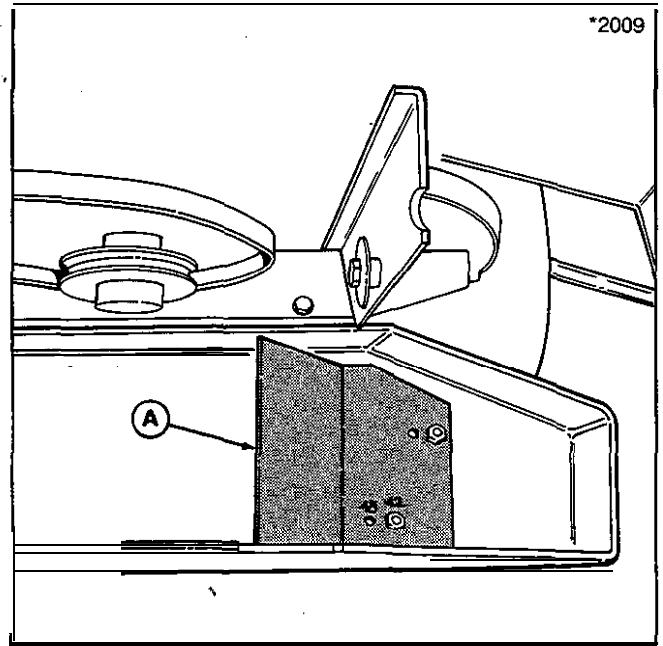

Figure 7.
10. The baffle (A, figure 7) is installed in the blower housing for use with 42" mower. For use with 48" mower, remove the baffle and install in holes marked 48".